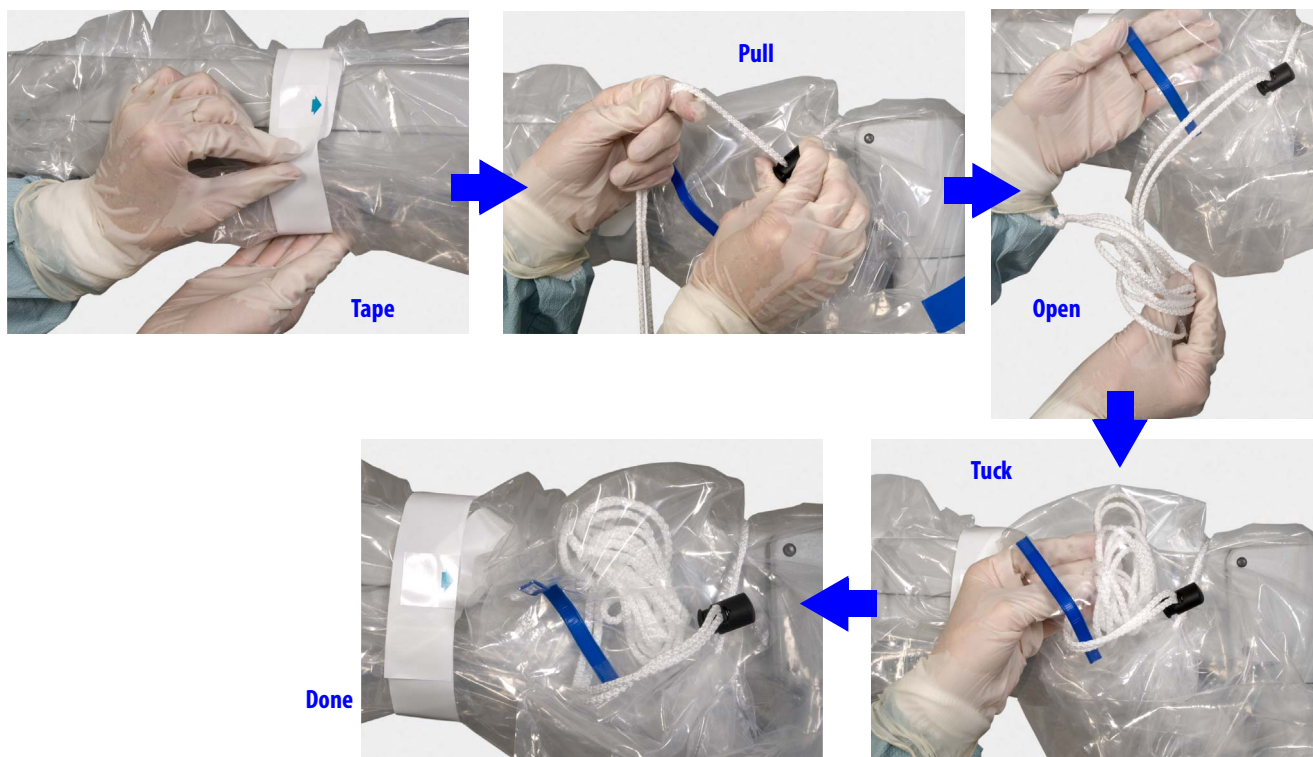

Figure 6.26 Secure tape, tighten drawstring, tuck extra inside
- Secure the tape around the arm and then tighten the drawstring around the base of the monitor arm, using the fastener to keep it secure (Figure 6.26). Tuck any extra drawstring inside the pouch located near the cuff of the drape (Figure 6.26).